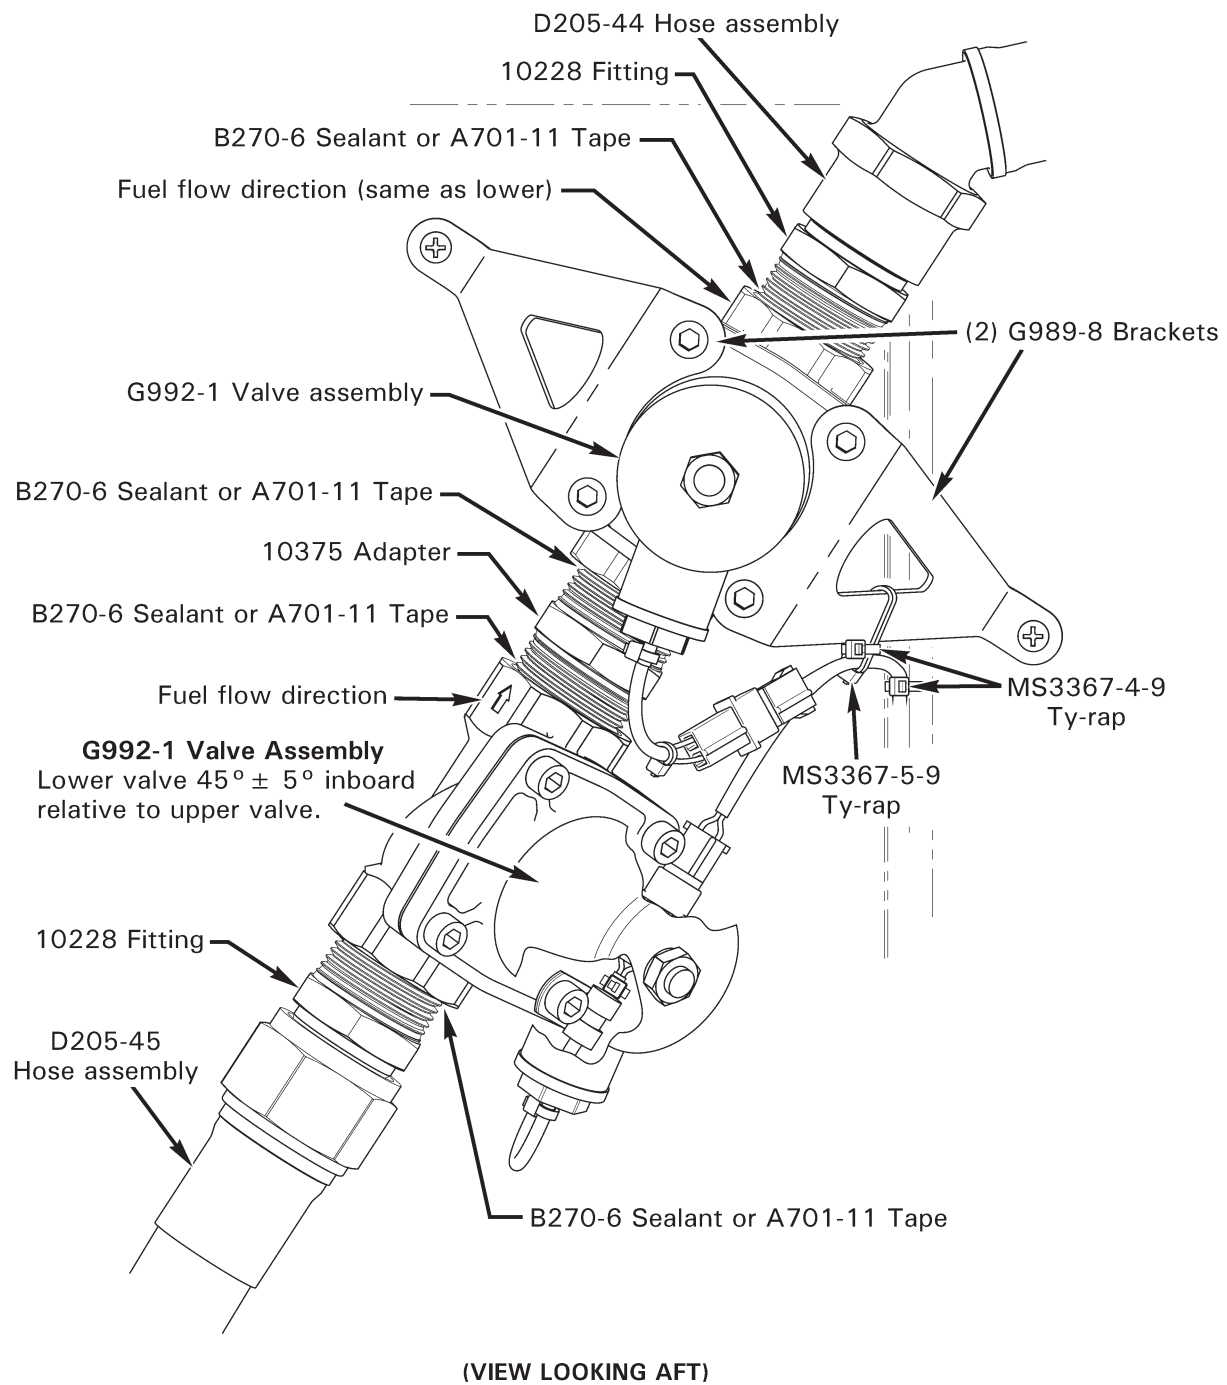

FIGURE 28-10 PRESSURE FUEL SYSTEM SHUT-OFF VALVE ASSEMBLIES
3. Refer to Figure 28-10. Open right-side engine cowling door. Remove hardware securing G989-8 brackets to firewall. Cut and discard ty-raps as required.
4. Using backup wrench, special torque hose nut per § 20-33 but do not torque stripe. Install ty-raps per Figure 28-10. Cinch ty-raps snug without over tightening and trim tips flush with heads
4. Refer to Figure 28-10. Cut and discard ty-raps as required and disconnect G992-1 valve assembly wire harnesses from G991-1 harness assembly at connectors.
3. Refer to Figure 28-10. Assemble upper and lower G992-1 valve assemblies and 10375 adapter. Special torque valves and adapter to 500 in.-lb. Tighten valves to align lower valve to $45^{\circ} \pm 5^{\circ}$ inboard relative to upper valve and torque stripe per Figure 5-1.